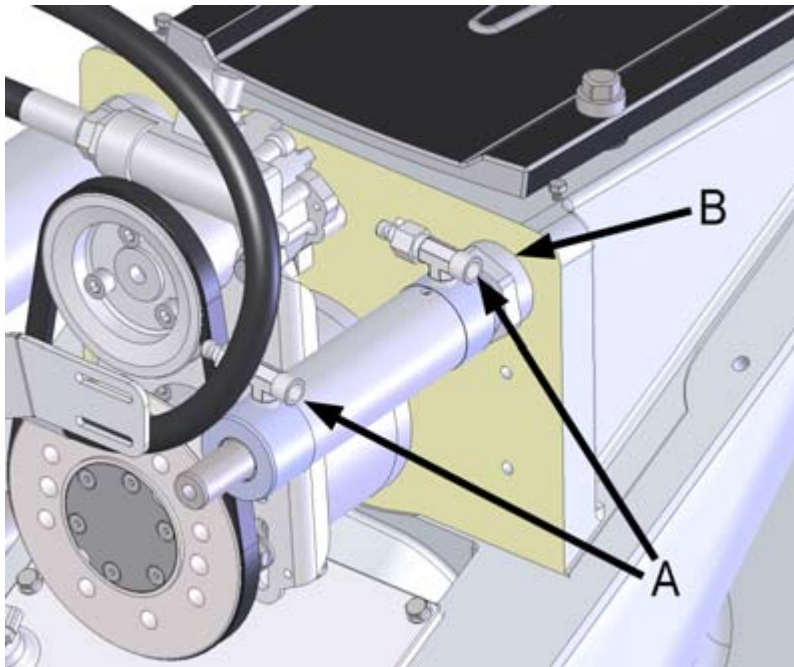

Figure 79. Cylinder hydraulic hoses
1. Remove the hydraulic hoses from the cylinder (figure 79, point A).
3. Open the fastening nut of the cylinder (figure 79, point B).